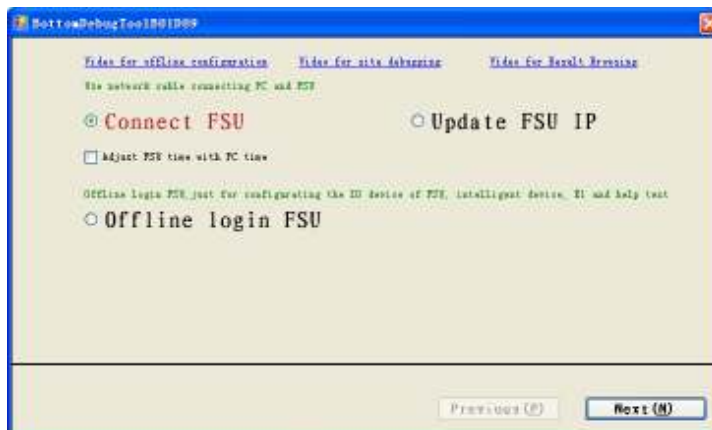
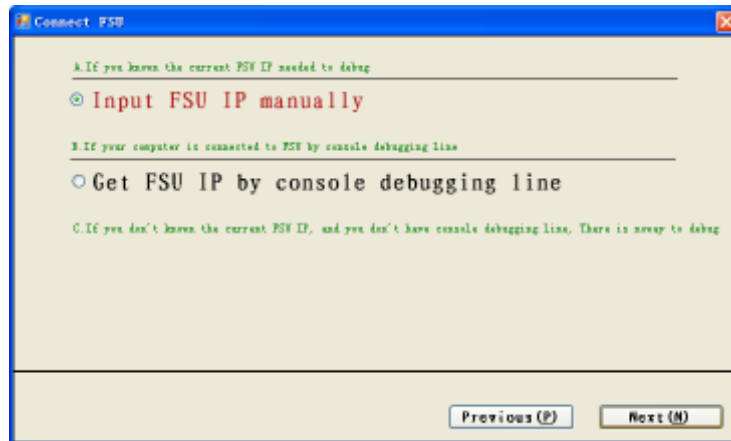

Figure 4-4 Selecting connection type
Figure 4-5 Selecting 'Input FSU IP manually'
2. Double-click the BottomDebugTool software operation program **BottomDebugTool.exe** to start the BottomDebugTool software, and the window shown in Figure 4-4 appears.
3. Select 'Connect FSU' in the window shown in Figure 4-4, click **Next (N)**, and the window shown in Figure 4-5 appears.